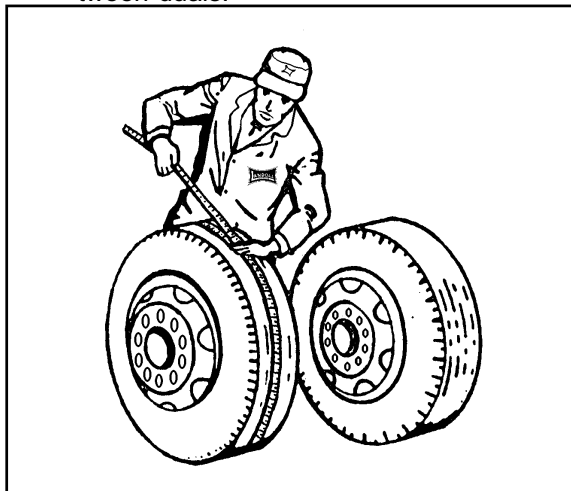

Figure 4-16 Measuring Tape Method
- a. **Tape Measuring Method:** Measure around each tire on the tread surface. A maximum difference of 3/4" is allowed between the two mating tires of a dual (**See Figure 4-16**).